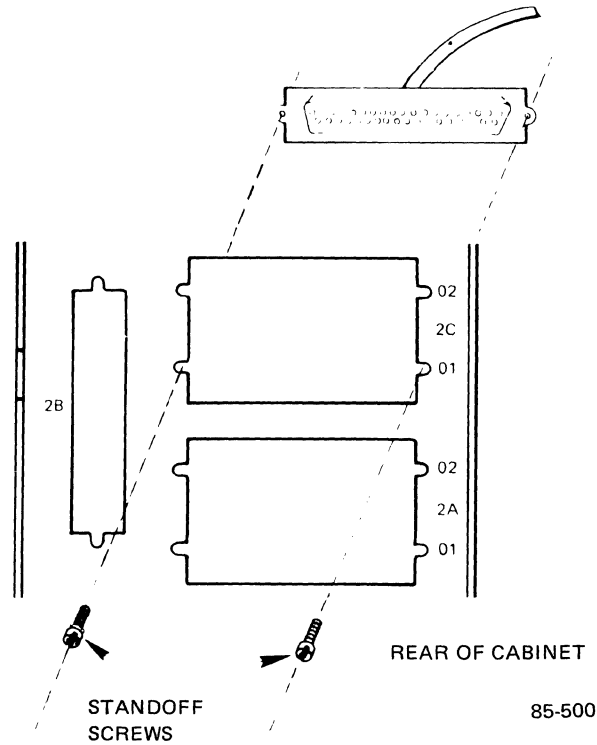

Figure 2-29. Cabling to the Disk Drive Bulkhead
2. Locate the special slotted standoff screws shipped with the cables (see Figure 2-29), and locate both connectors of the A-cable at the side of the drive's cable trough (see Figure 2-15).
3. Secure the J01 connector to the appropriate A J01 slot on the bulkhead (see Figure 2-28) with the standoff screws as shown in Figure 2-29. Do not overtighten the screws (maximum torque is 4 inch-pounds).
5. Locate the B-cable at the side of the cable trough (see Figure 2-15). Secure it to the appropriate B slot on the bulkhead (see Figure 2-29) with the standoff screws as shown in Figure 2-29. Do not overtighten the screws (maximum torque is 4 inch-pounds).
7. Secure the J01 connector to the appropriate C J01 slot on the bulkhead (see Figure 2-28) with the standoff screws as shown in Figure 2-29. Do not overtighten the screws (maximum torque is 4 inch-pounds).